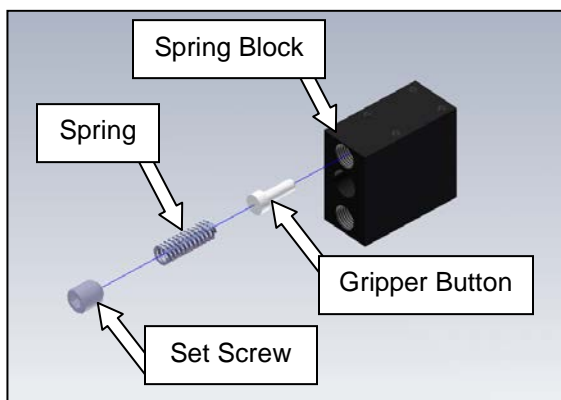

Figure 3-320. Gripper Button Components
11. Take one spring block, and remove one of the set screws. Remove the spring and gripper button from the block, and replace with the new components. Reinstall the set screw with Loctite® Blue, and turn until the screw is protruding 1/8". This will give the gripper button springs the proper preload. Repeat this procedure for the other spring and gripper button, and for the other block (Figure 3-320).